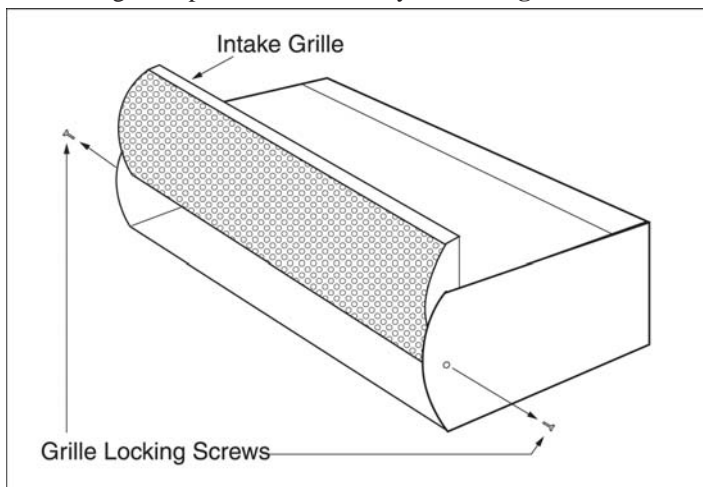

FIGURE 10- Intake Grill Removal
- A. Disconnect the power to the unit; remove the intake grille by removing the locking screws on each end of the unit. Lift the intake grille up and then towards you. **See Figure 10.**